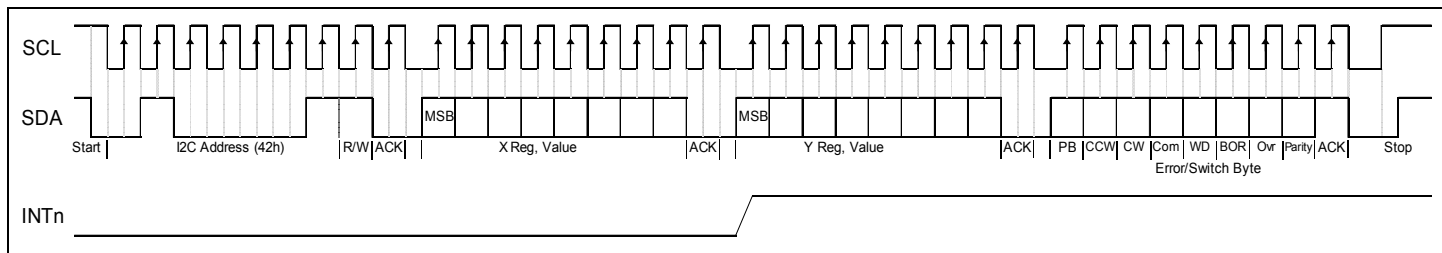

Figure 2 – Read X, Y & Error/Switch Bytes over I²C Bus
IMPORTANT: In order to keep X & Y values paired together or "in synch.", X register data should be read in an I2C sequence which reads both the X & Y registers as described in Sec. 3.2.1 and Figure 2.
The Y register should be read in a single I²C sequence that reads the X Register first immediately followed by the Y register as described in Sec. 3.2.1 and Figure 2.
3.2.1 Read X, Y and Error/Switch Bytes – When INTn goes low there are new X & Y values available. To read the three bytes the external I²C Master should perform a read sequence of 3 bytes without providing a register address (Joystick always sends X register value followed by Y register value and then the Error/Switch byte for any 3 byte read without a register address). INTn will go high (inactive) at the beginning of the read of the Y value (see Figure 2).
Important Note: If a new X & Y value is available before the previous values are read the new values will over-write the old (with the loss of the oldest values). However, in order to keep the X & Y values paired together or “in sync”, it is important that the user read the X, Y and Error/Switch bytes in the a single I²C sequence as shown in Figure 2. This is also the fastest and most efficient use of the I²C bus.